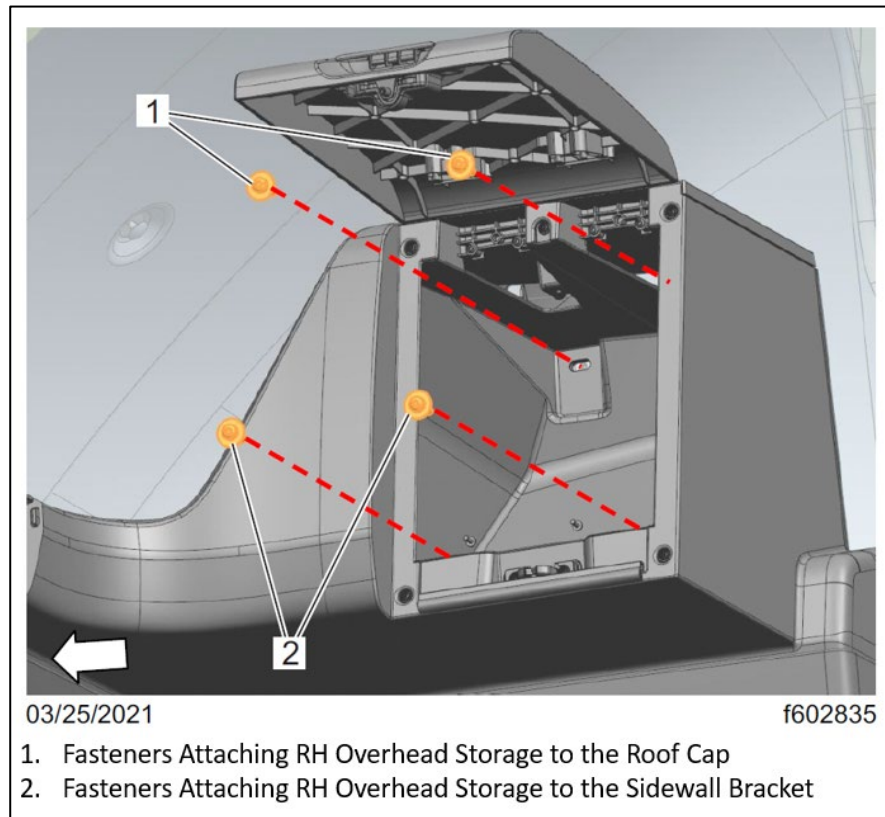

Fig. 54, Fasteners That Attach the RH Overhead Storage Assembly to the Roof Cap and the Sidewall Bracket
9.4. Remove the four fasteners that attach the RH side overhead storage assembly to the roof cap, and the sidewall bracket. See Fig. 54.